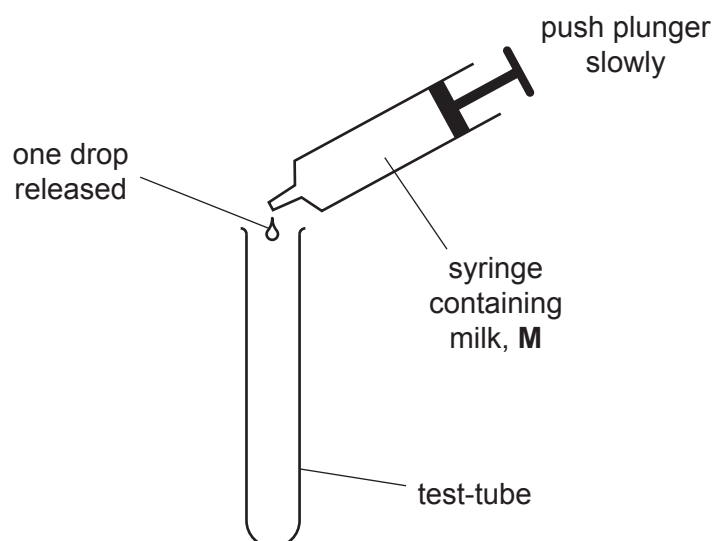

Fig. 1.1
2. Hold the syringe containing **M** over an empty test-tube, as shown in Fig. 1.1. Push the plunger slowly to release **one** drop.